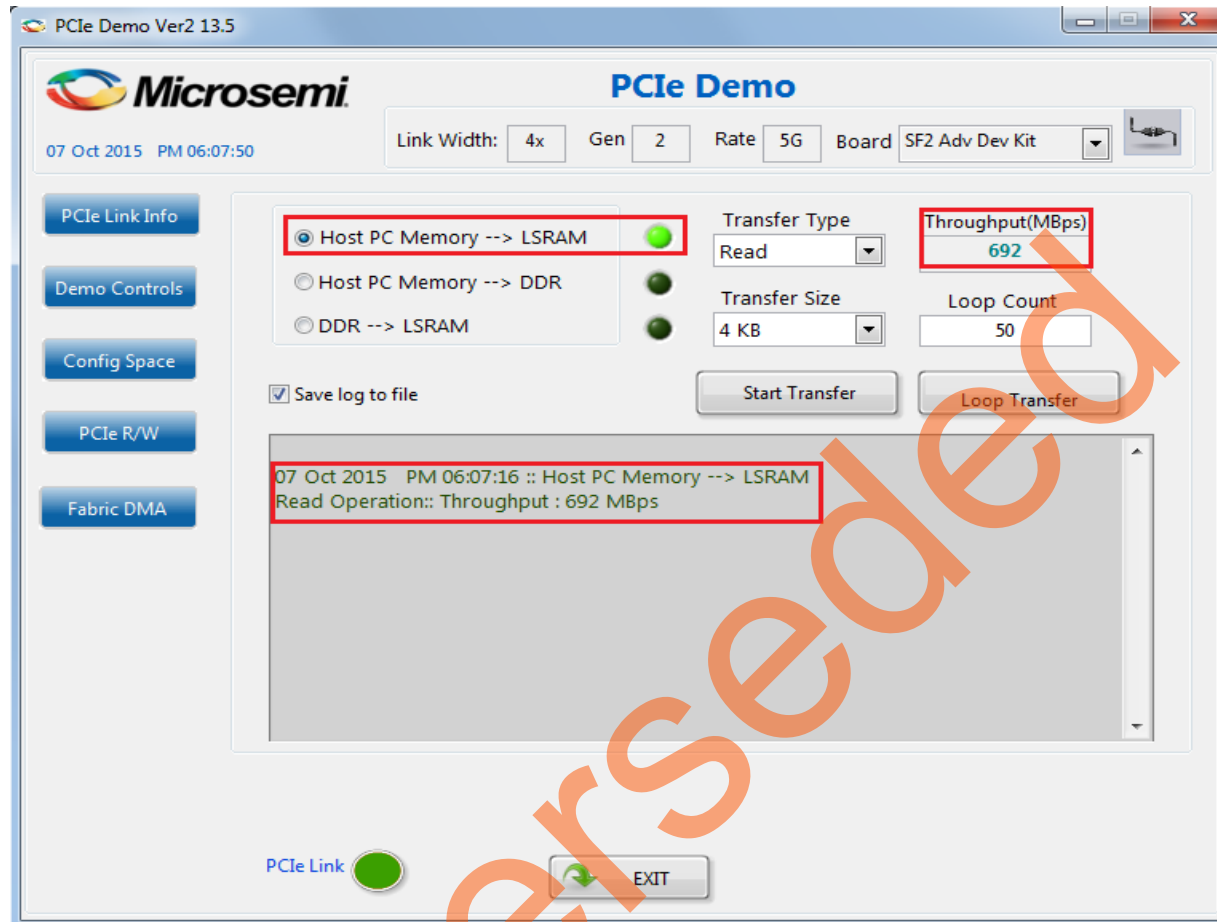

Figure 26 • DMA between Host PC Memory and LSRAM
16. After completion of data transfer, the throughput is displayed as shown in Figure 26.